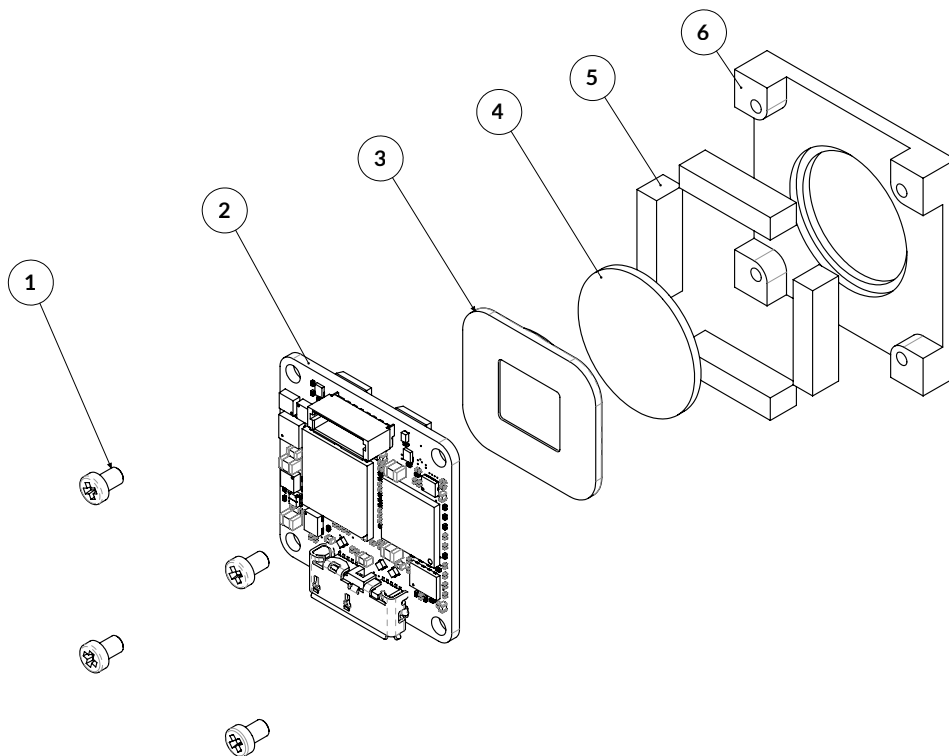

Figure 3.22: ARIA custom-designed enclosure example
Figure 3.22 shows the recommended set of components to build a custom design enclosure. Four screws (1) to couple the board level (2) to the lens mount (6). Between 6 and 2 a thermal compound (e.g. Sil-Pad marked as 5) will improve thermal coupling, moving heat outside the camera. If the lens is not dust proof, it's important to place a filter (4) and a filter holder (3) to block dust intrusion. For color sensors an IR filter is also crucial to block unwanted frequencies that can alter images in some conditions. For monochrome sensor a neutral filter is recommended.